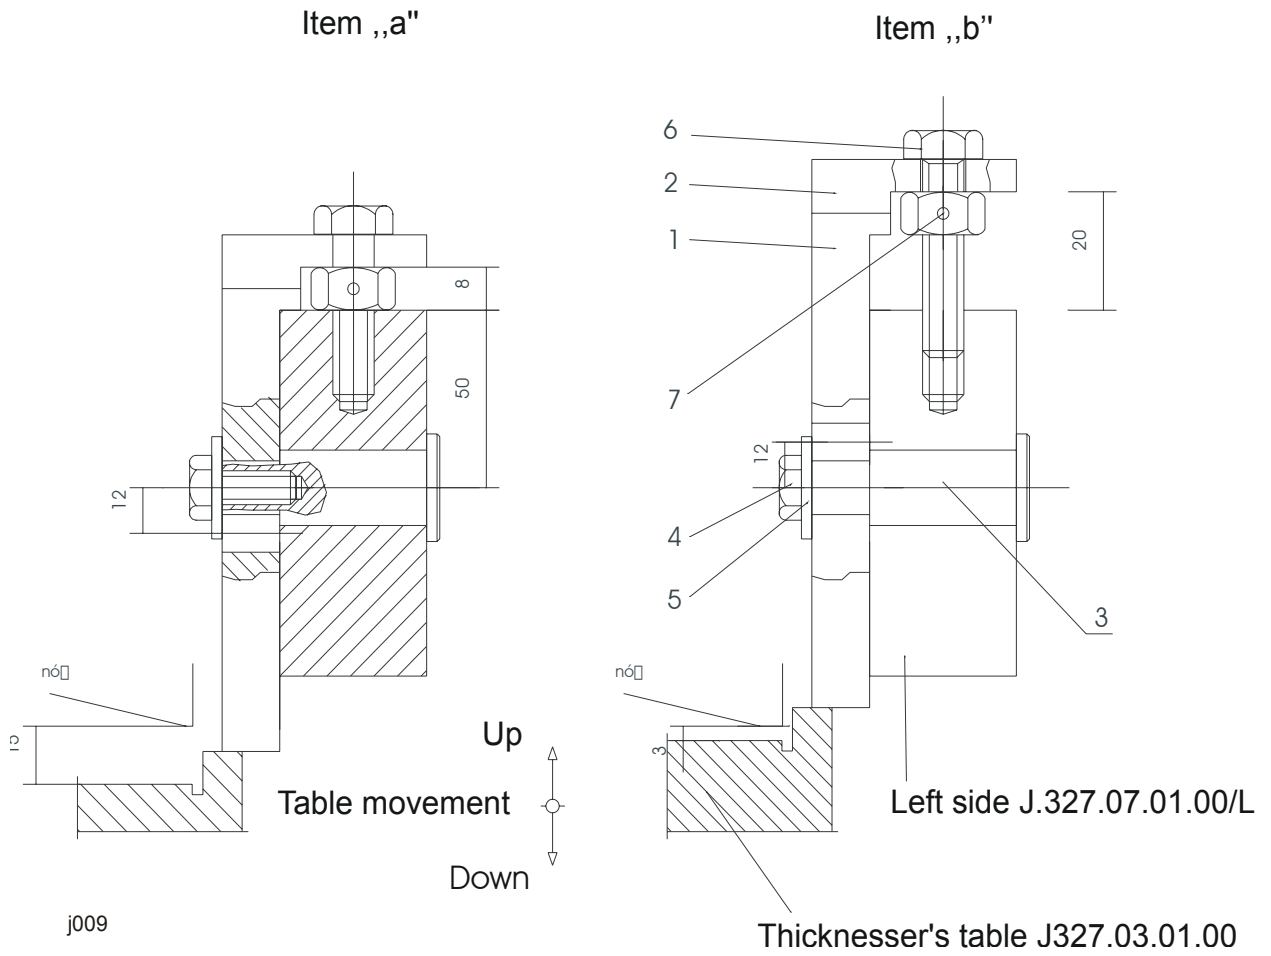

Fig.9
The permissible travel of the table is also blocked mechanically when using the handwheel (21) to raise the table. The operation of the mechanical limits is shown in Figure 9.
The factory settings are for a minimum setting of 15mm (Item a)). In order to reset the limit to 3mm (Figure 9, Item b)) one has to loosen screw 4 and then tighten screw 6 with the 17mm spanner. After adjusting the physical limit to desired dimension tighten screw 4 until secure.